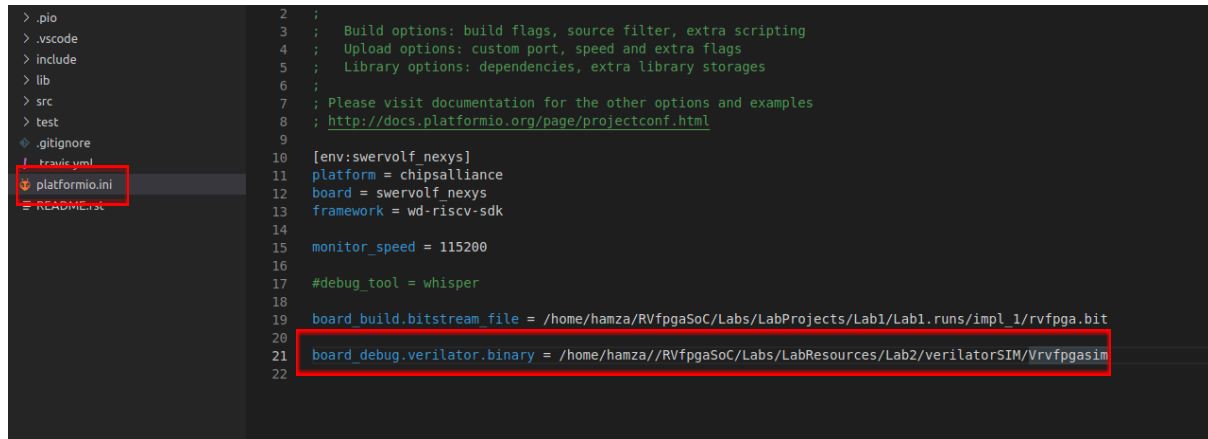

Figure 8. PlatformIO initialization file: platformio.ini
4. Open file *platformio.ini*. Establish the path to the RVfpga simulation binary generated in the first step (*Vrvfpgasim*) by editing the following line (see Figure 8).